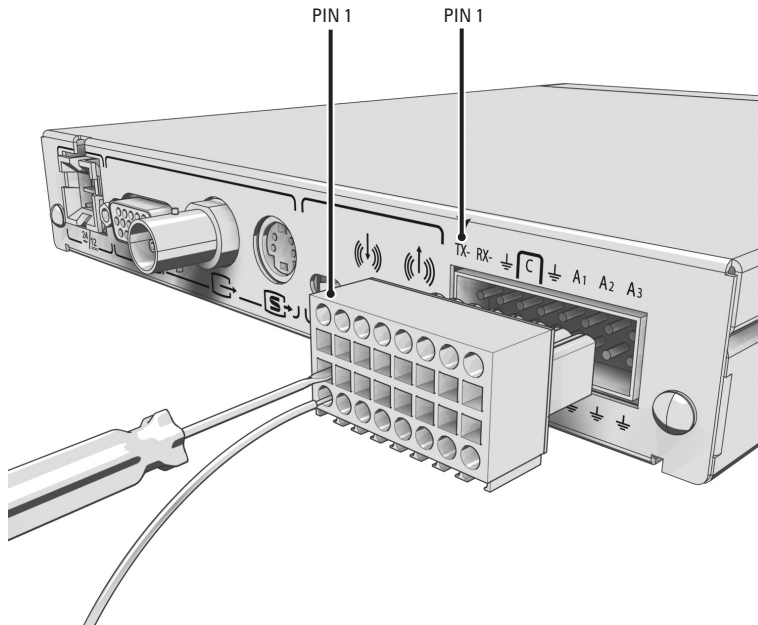

Figure 11. Wiring the CM9700MDD-EVS Terminal Block
The terminal block has tension clamps instead of screw terminals. Use a small screwdriver to open the clamp for a particular lead. Figure 11 shows how to wire the terminal block and connect it to the CM9700MDD-EVS.
NOTE: The terminal block can be attached to the CM9700MDD-EVS only in the proper position, as shown in Figure 11.
2. Connect the cable's individual wires to the terminal block on the rear panel of the CM9700MDD-EVS. An arrow on the rear panel identifies pin 1; on the terminal block, pin 1 is the leftmost lead on the top row and pin 9 is the leftmost lead on the bottom row (refer to Figure 11).